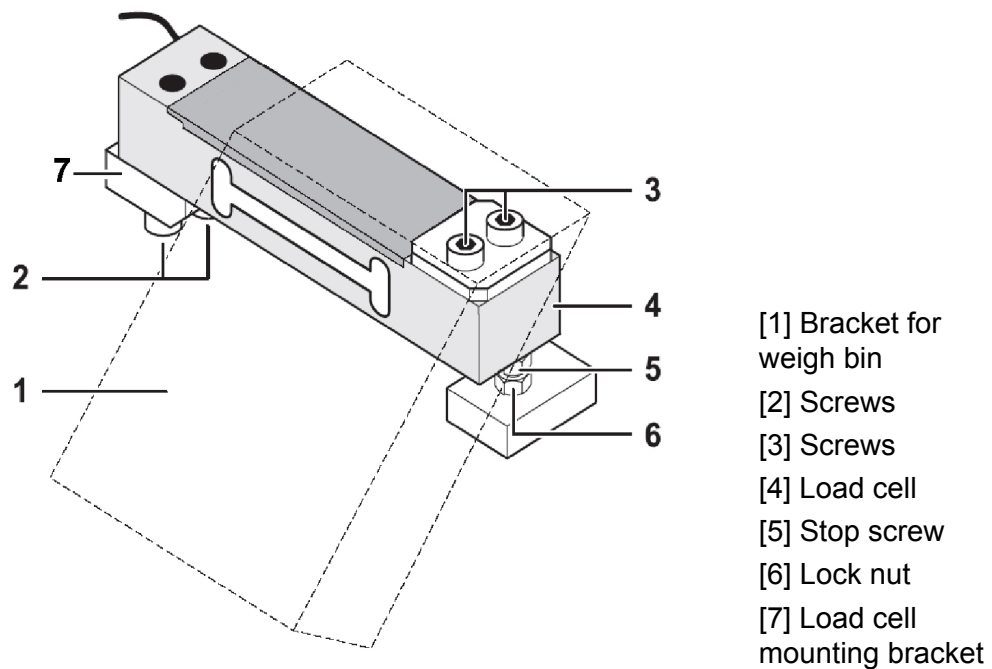

Fig. 19: Removing load cell
- See figure 19 below for item numbers.
- Remove the two screws (item 2) that are used to mount the load cell and weigh bin-mounting bracket to the load cell-mounting bracket (item 7).
- Hold the load cell in a vise or similar and remove the two screws (item 3) weigh bin mounting bracket (item 1) from the load cell.
- Mount the weigh bin-mounting bracket (item 1) onto the new load cell using the two screws (item 3) and tighten to 10 Nm. Make sure that the weigh bin-mounting bracket (item 1) is perpendicular and square with the load cell.
- Place a small amount of removable strength Loc-tite onto the two screws (item 2) and re-install the load cell and weigh bin mounting bracket back on the load cell mount (item 7). Make sure that the load cell (item 4) is mounted square with the load cell mount (item 7) and tighten the two screws (item 2) to a value of 10 Nm.
- Items number five and six are used as a stop for the load cell (item 4) to prevent damage if over weighting occurs. If this bolt was not loosened during removal or installation of load cell this should not need adjusted. If the bolt is loosened during the process the gap needs to be re-set so the load cell (item 4) contacts the bolt (item 5) when the weigh bin is loaded with 3 kg total weight. A .020" feeler gage could be used to set the gap without loading the cell.